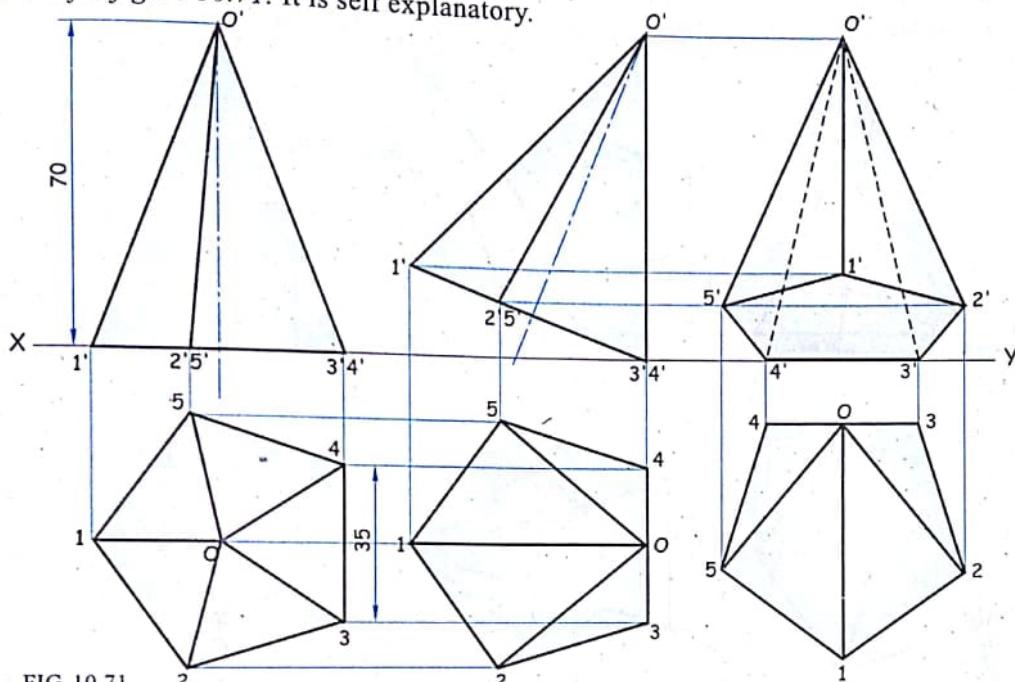

FIG. 10.71
**Solution :** Refer figure 10.71. It is self explanatory.